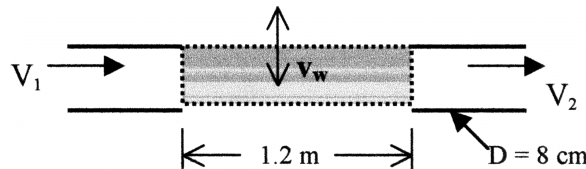

Fig. P3.12
3.12 Water flowing through an 8-cm-diameter pipe enters a porous section, as in Fig. P3.12, which allows a uniform radial velocity v_w through the wall surfaces for a distance of 1.2 m. If the entrance average velocity V_1 is 12 m/s, find the exit velocity V_2 if (a) $v_w = 15$ cm/s out of the pipe walls; (b) $v_w = 10$ cm/s into the pipe. (c) What value of v_w will make $V_2 = 9$ m/s?